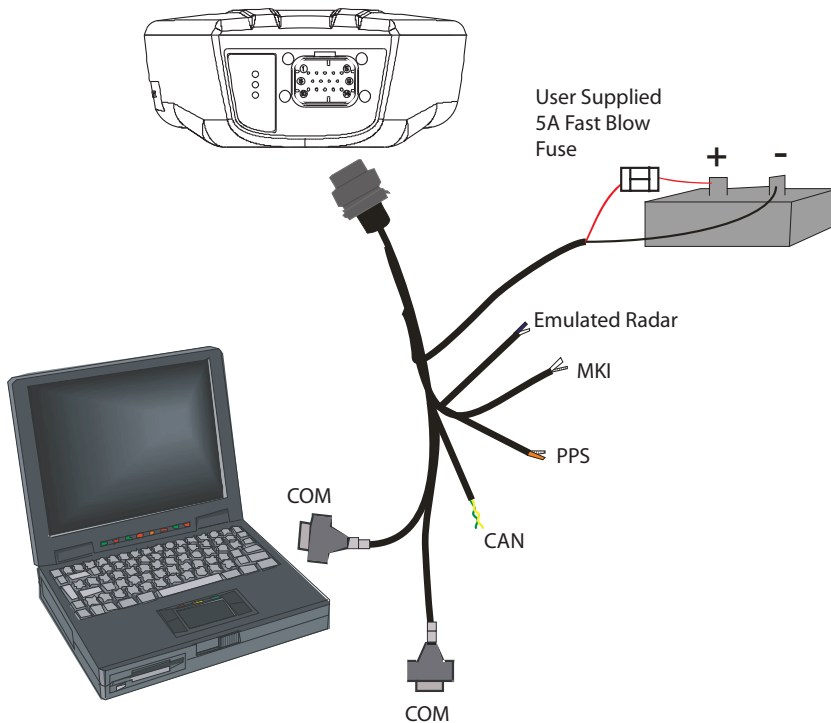

Figure 3: Simplified SMART-AG Setup
- SMART-AG cable (01018256) (included with the receiver Development Kit), NovAtel part number 01018257, see *Figure 3, Simplified SMART-AG Setup* on *Page 22* for COM and power connections